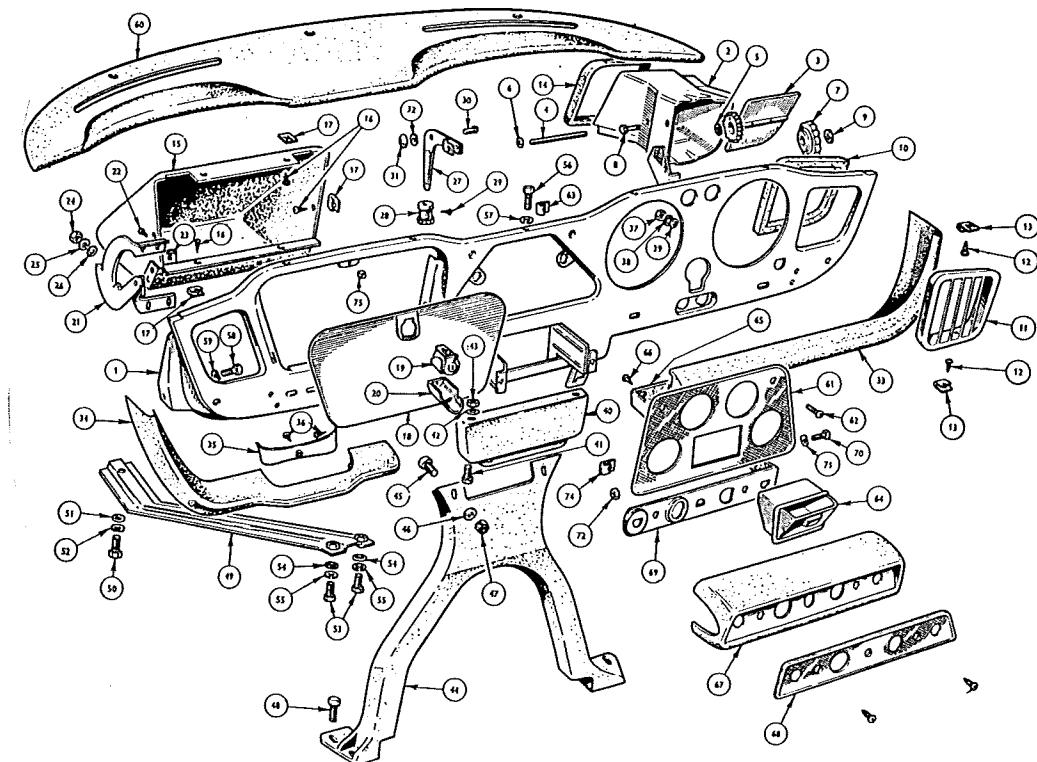
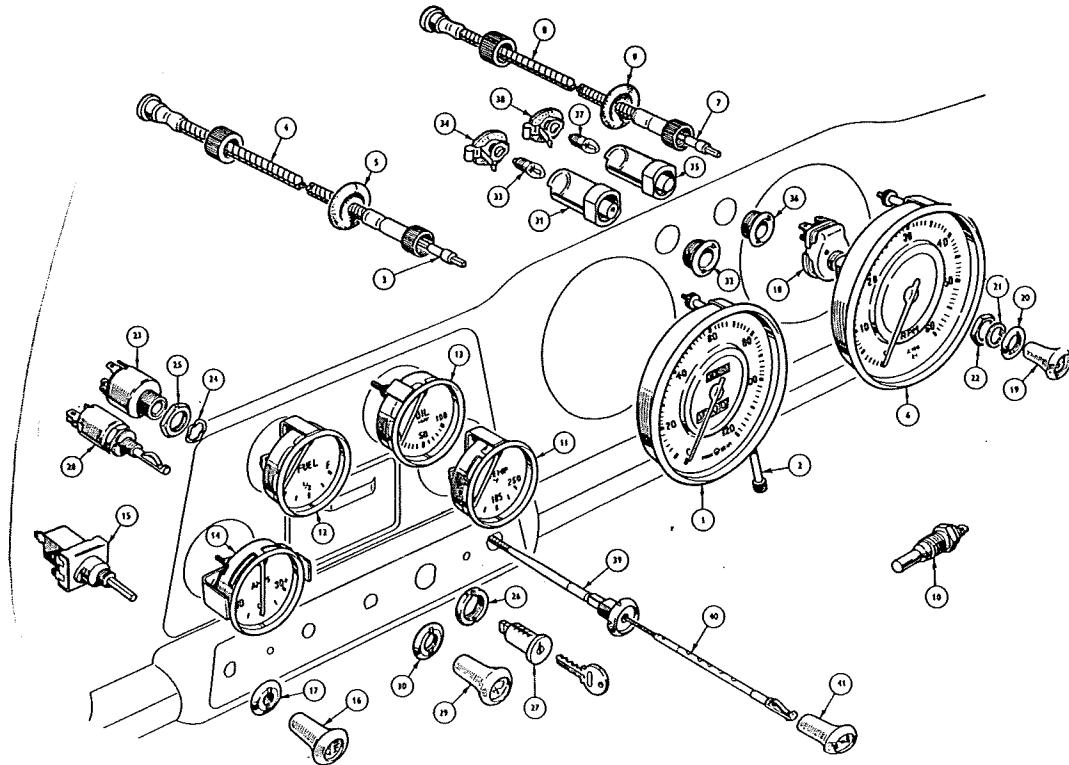

Figure IN-12: Exploded View Of The Dash And Supports
Figure IN-13: Instrument Locations
The TR4 and TR4A dashes during the production run were shown in Figures IN-2 through IN-4. What follows is a description of the items that made up the dash. Unless otherwise noted the items applied for both the TR4 and TR4A. An exploded view of the TR4 dash is in Figure IN-12.
The TR4/4A instruments are shown in Figures IN-2 through IN-4 also. Figure IN-13 is the instrument illustration from the parts catalogue. Note that some of the items in this section are shown in Figure IN-12.
Gauge Location - One of the most common originality deductions involves gauge location. Figure IN-13 shows the gauge location for RHD cars. This is mirrored for LHD cars.
Center Dash Mounted Instrument Panel Switches and Controls - The instrument panel light switch, windscreens wiper switch, side/head lamp switch, starter/ignition switch, windscreens washer pump, and choke control were located in the center panel. These switches are shown in Figure IN-13, and are in the correct position (this did not swap between RHD and LHD cars). Switch knobs were black with their function indicated pictorially on the front behind a clear plastic cover. These functions are shown in Figure IN-14.
- Mounting Plinth (#67, Figure IN-12) for the early TR4 was a cardboard unit covered with leather grain vinyl. The insert (#68) was stamped aluminum left natural. Later Plinths were injection molded black plastic.